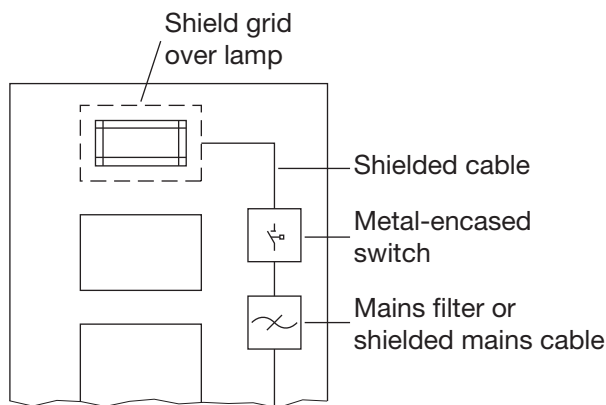

Fig. 5: Interference suppression of fluorescent lamps in cabinet
- ▶ Cabinet lighting: Use filament lamps (e.g. LINESTRA lamps) for the cabinet lighting. Do not use fluorescent lamps because they generate interference fields. If the use of fluorescent lamps cannot be avoided, the interference suppression measures shown in Fig. 5 must be implemented.